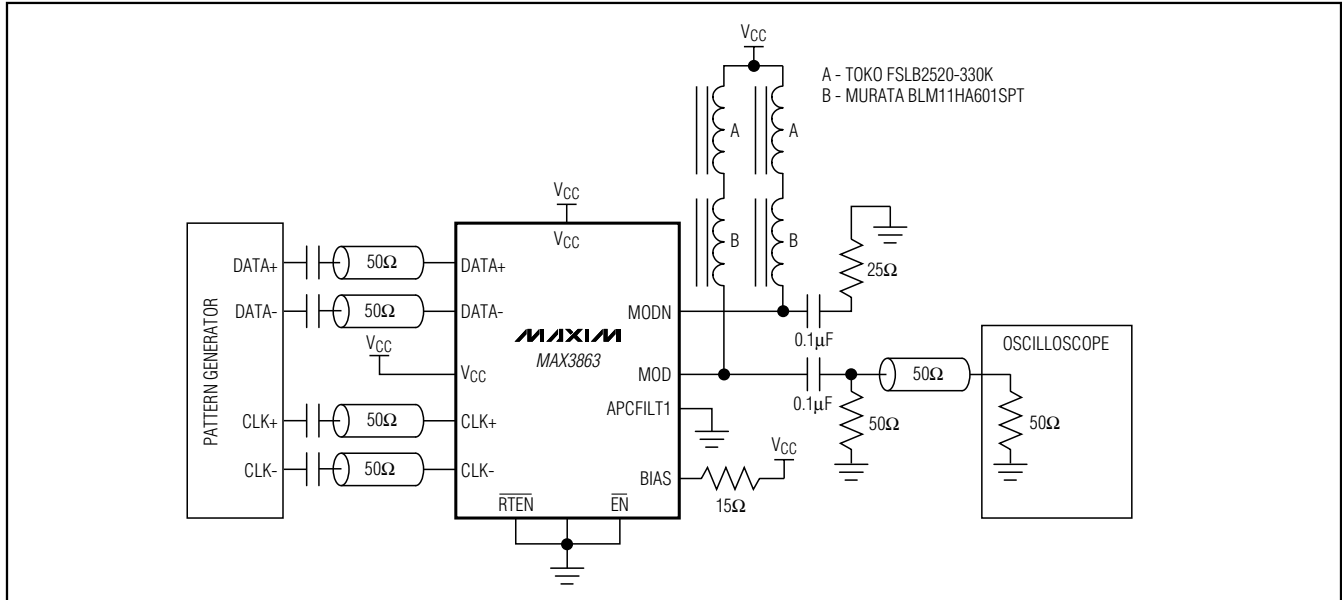

Figure 1. AC Characterization
**Note 9:** AC characterization performed using the circuit in Figure 1.